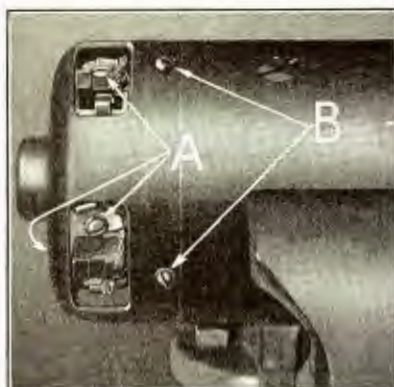

Fig. 457
- (a) Run out the three brush holder screws (See "A" Fig. 457), which hold terminal and field leads to brush holders.
- 931 Install brush end bracket on yoke and run-down the four bracket to yoke screws (See "B" Fig. 457).